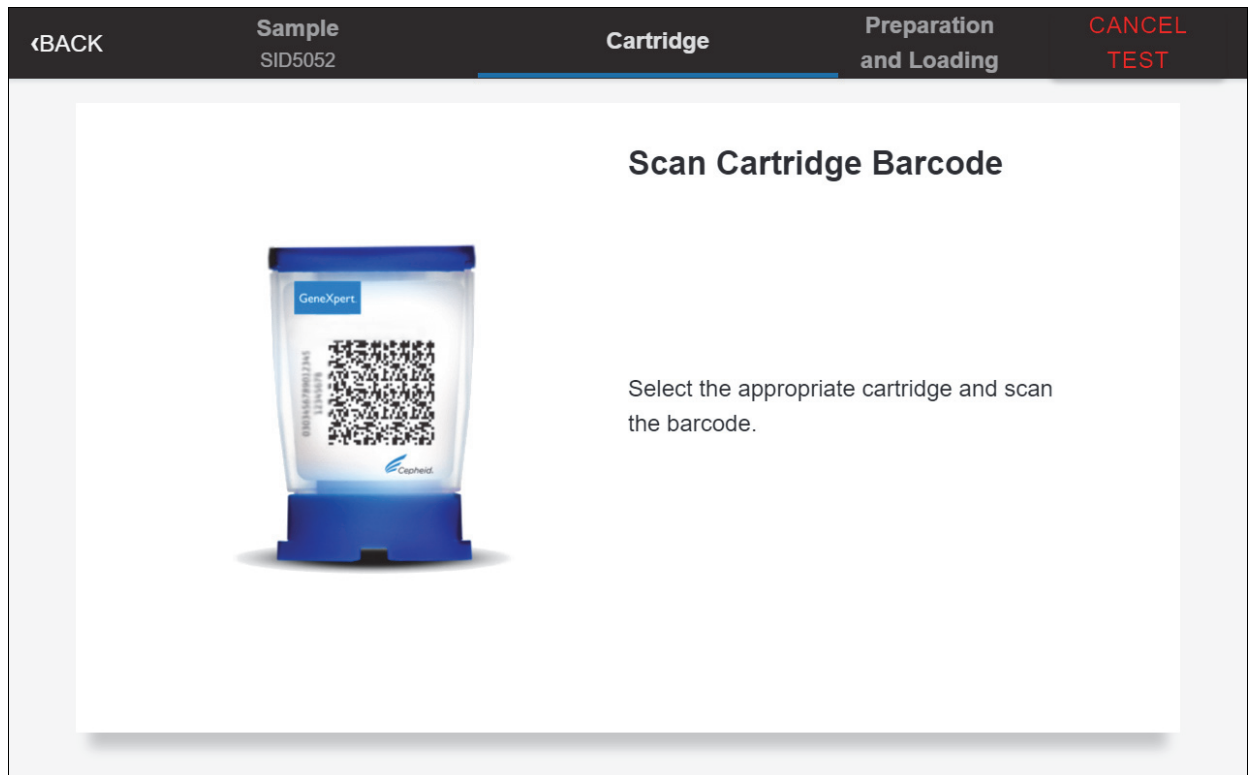

Figure 25. Scan Cartridge Barcode Screen
6. Verify the Sample ID and touch **CONFIRM**. The Scan Cartridge Barcode screen appears (see Figure 25).